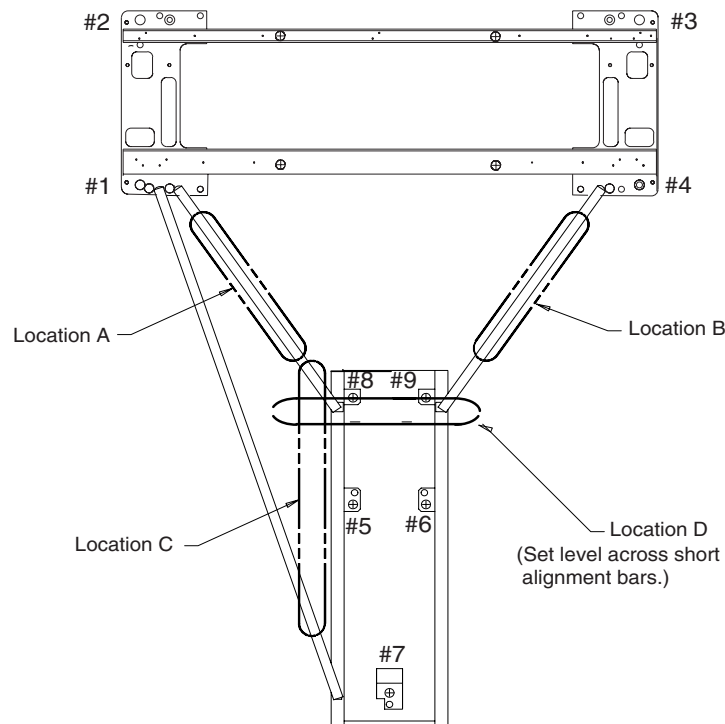

Figure 1-21 Table Base Gantry/Table Level Locations
- 1.) Loosen and unload adjusters #5 and #6 (see Figure 1-21). Do not remove the shipping bolts.
- 5.) Systematically level locations A, B, and C (see Figure 1-21) by turning each adjuster. GE suggests a maximum of one (1) turn at a time.
- 8.) Screw down the adjusters at table Locations #5 and #6, until each rests tightly against its leveling pad. Tighten each adjuster a little more than hand tight, but take care not to unload any of the other table adjusters. It is important that locations #5 through #9 (Figure 1-21) all bear part of the table load.